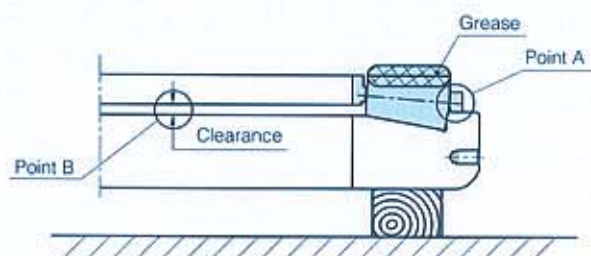

Fig. 3.39
- (2) After applying specified amount of grease over the periphery of the cage and rollers with matching symbol A, then place them slowly on the outer ring. Check the cage direction by confirming that the cage contacts the outer ring at (Point A) and check that there is a clearance between the cage and outer ring at (Point B) as shown in Fig. 3.39.